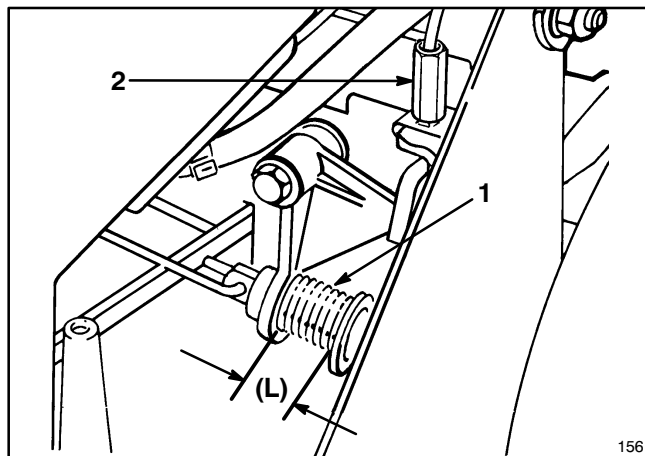

Figure 31
3. Move control bar down and lift up against handle. With control bar against handle, measure the spring length (L) at the front of the spring as shown in Figure 31.
5. To adjust, rotate plastic fitting on blade brake cable (Fig. 31) until spring dimension is as near as possible to but not less than 25 mm (1"). (See following note.)
4. Remove any debris that may have accumulated in area behind panel (Fig. 31).